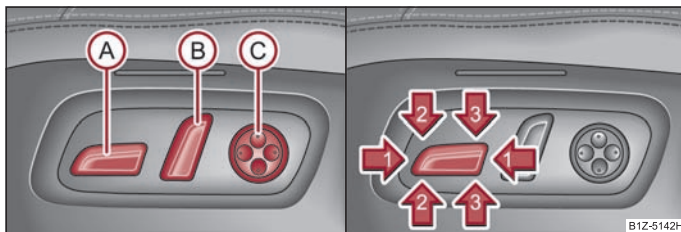

Fig. 56 Side view: Controls for adjusting the seat/seat setting switch
- Press the switch **(A)** ⇒ fig. 56 forwards or backwards **(1)**.